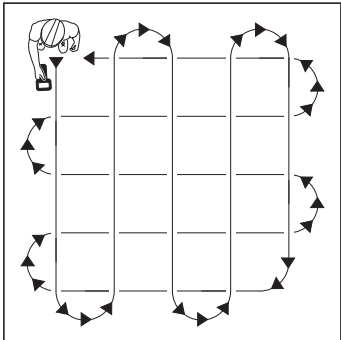

Fig. 26: Path to follow for passive location
4. Move around the site as shown in Fig. 26.